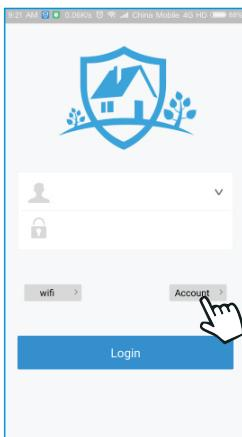
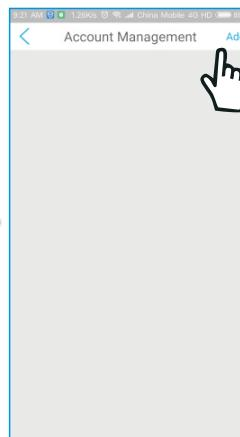
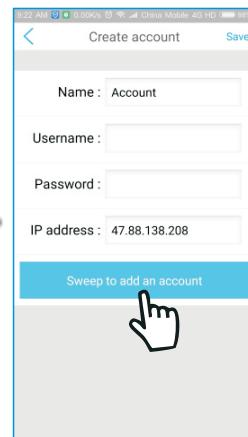

Figure 8-1
Figure 8-2
Figure 8-3
- B. Click "Account" - "Add" - "Sweep to add an account" - "Scan QR Code of panel"; (as shown in Figure 8-1, Figure 8-2, Figure 8-3, Figure 8-4 )